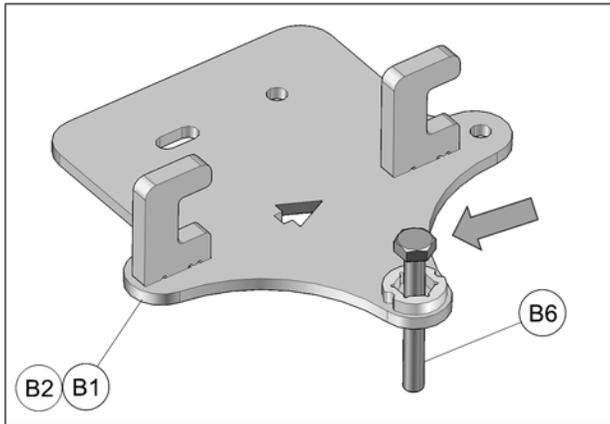

Fig. 4
4. Insert M10x80mm bolt (B6), provided in the installation kit, in the rear anchor bracket (B1-B2) as shown in Fig. 4